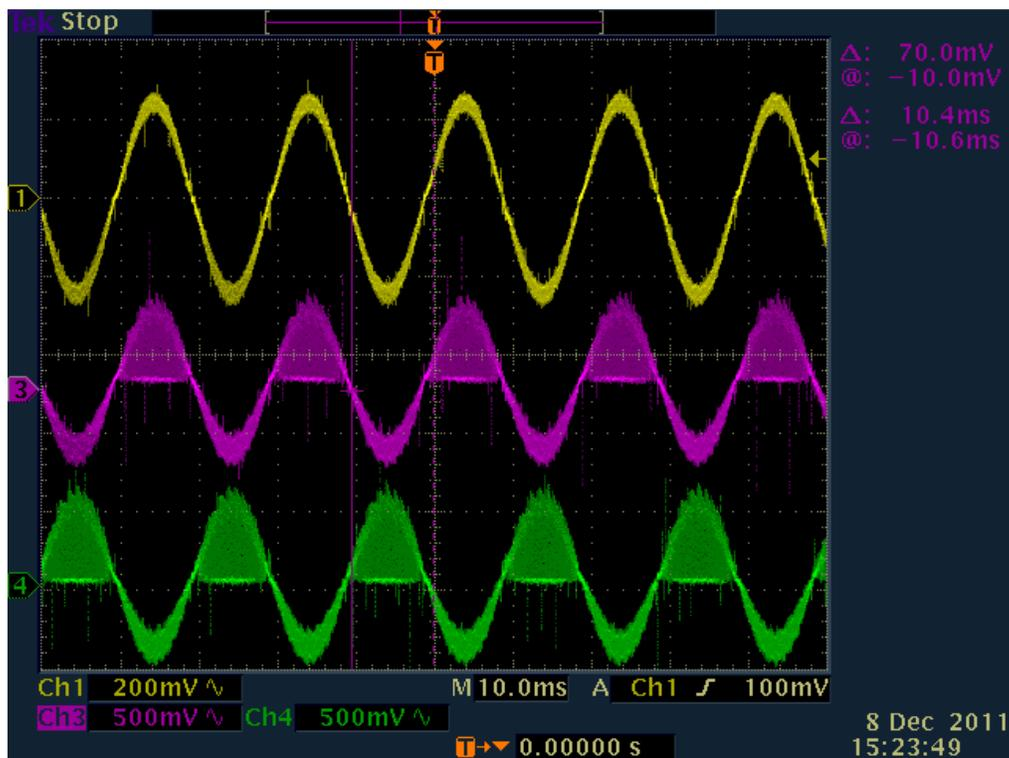

Fig 28 Inverter Current Measurement
31. Monitor inverter leg currents, marked as Ileg1-fb and Ileg2-fb on the board, on oscilloscope to ensure that the current feedback is fed to the controller as expected. Fig 28 shows oscilloscope capture of these waveforms.